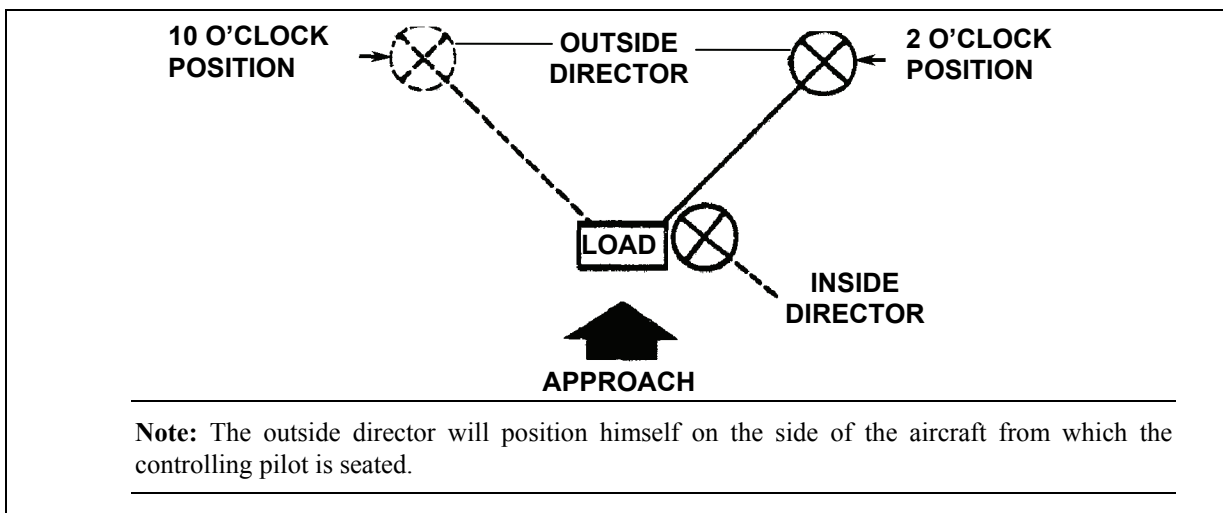

Figure 5-3. HST Initial Position
- **Positioning Personnel (USMC).** Marine Corps HST operations require different positions for the HST personnel (Figure 5-3). As the helicopter approaches the landing site, the outside director is at a position of 2 (or 10) o'clock upwind of the load. From this position he is able to guide the helicopter over the load with assistance from the inside director. The helicopter crewman may also provide directional information to the pilot as the helicopter approaches the load when immediate response is required.